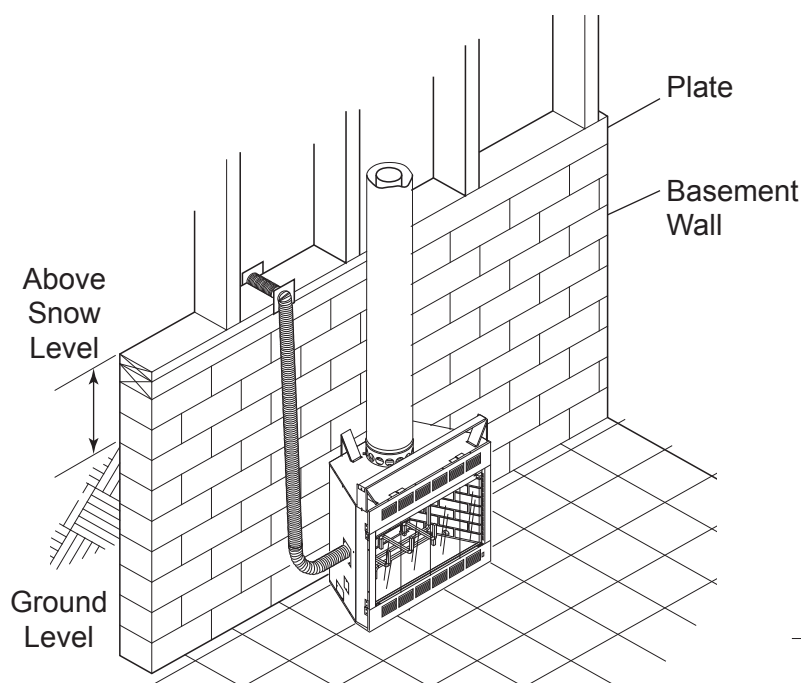

Figure 28 - Basement Installation
5. Avoid extremely long runs and numerous turns in the duct leading from the fireplace to the combustion air assembly. These conditions increase the resistance to the free flow of air through the duct. See Figures 28 through 31 for methods of installing the outside air for combustion assemblies.